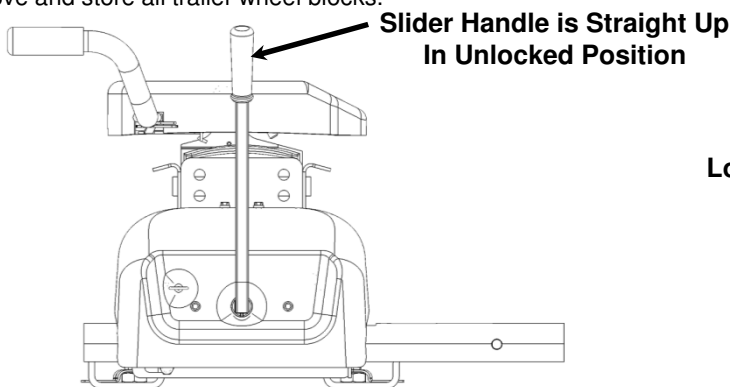

Figure 27b
6. Rotate Handle to Unlocked Position-Straight Up. See Figure 27b.